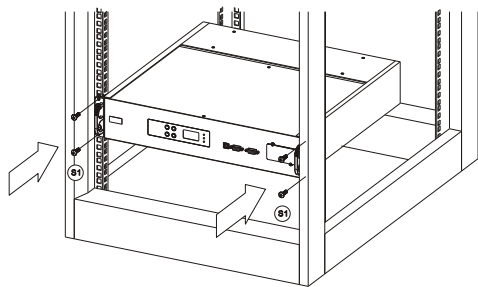

Figure 4
8. Finally, the ATS host body with screws to the rack (Figure 4), to complete the installation